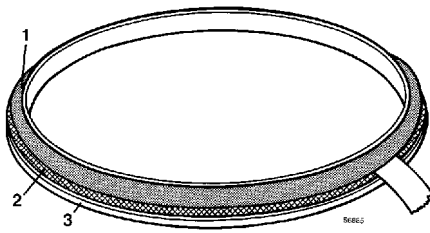

Figure 7
23. Position the support ring and O-ring on the slide ring. The support ring should be positioned between the O-ring and slide ring flange, see Figure 7.